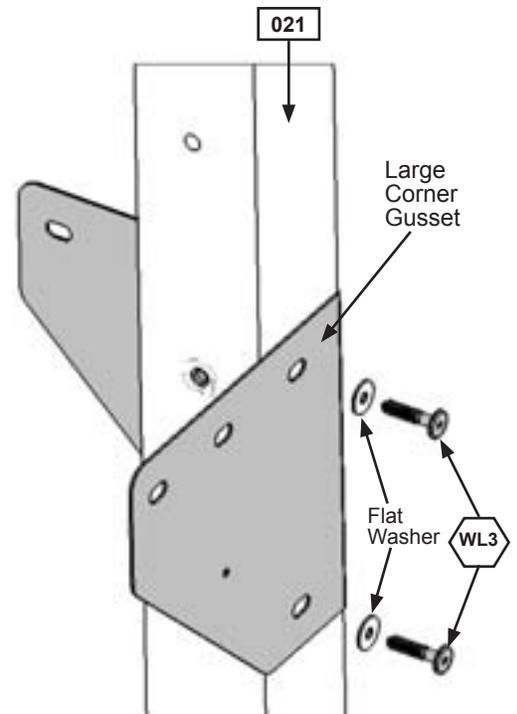

Fig. 2.4
B: On other side of each Large Corner Gusset attach to the (021) Post Long with 2 (WL3) 1/4 x 1-3/8" Wafer Lag (with flat washer) per Gusset. (fig. 2.4)